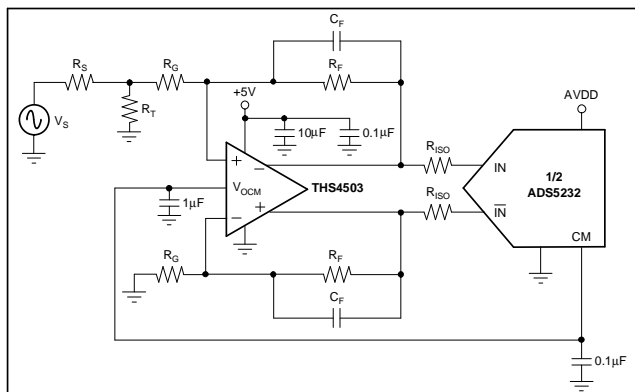

Figure 20. Using the THS4503 with the ADS5232
Applications that have a requirement for DC-coupling a differential amplifier, such as the THS4503, can be used to drive the ADS5232; this design is shown in Figure 20. The THS4503 amplifier easily allows a single-ended to differential conversion, which reduces component cost.
In addition, the  $V_{OCM}$  pin on the THS4503 can be directly tied to the common-mode pin (CM) of the ADS5232 to set up the necessary bias voltage for the converter inputs. In the circuit example shown in Figure 20, the THS4503 is configured for unity gain. If required, a higher gain can easily be achieved as well by adding small capacitors (such as 10pF) in parallel with the feedback resistors to create a low-pass filter. Since the THS4503 is driving a capacitive load, small series resistors in the output ensure stable operation. Further details of this and the overall operation of the THS4503 may be found in its product data sheet (available for download at [www.ti.com](http://www.ti.com)). In general, differential amplifiers provide a high-performance driver solution for baseband applications, and other differential amplifier models may be selected depending on the system requirements.